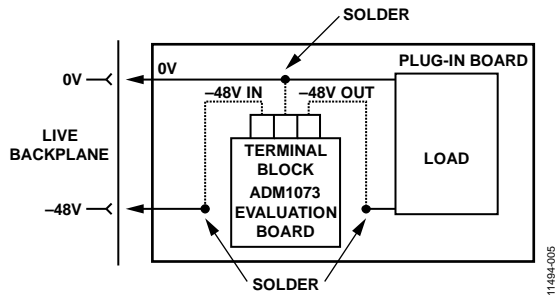

Figure 4. Integrating the ADM1073 Evaluation Board into the System
2. To integrate the ADM1073 evaluation board into your system in place of the original hot swap circuitry, clamp three wires into the J1 terminal block of the ADM1073 evaluation board and solder them into position on the board. If you need to access the logic I/Os, there are blank pads on the board that can be used for this purpose. The ADM1073 evaluation board now acts as a substitute for the old hot swap circuitry, as shown in Figure 4.